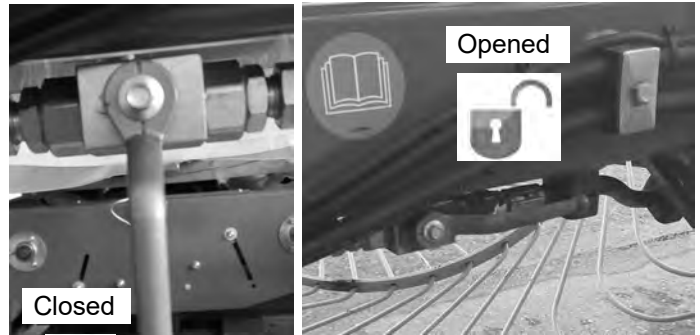

fig.7
2. (in presence of kicker wheel) equipment right side under frame central spar – close the tap on the hydraulic circuit of the kicker wheel (fig.7);